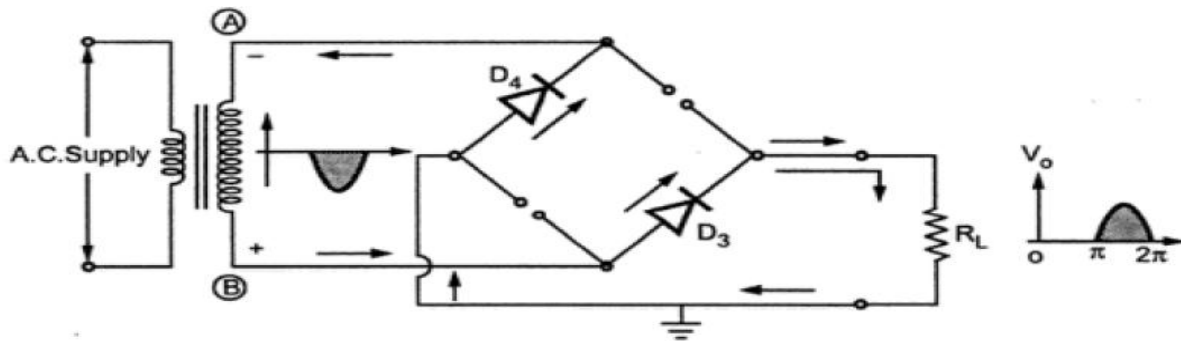

Fig. 1.32 Current flow during negative half cycle
- Now the diodes D_3 and D_4 conduct in series with the load and the current flows as shown in Fig. 1.32